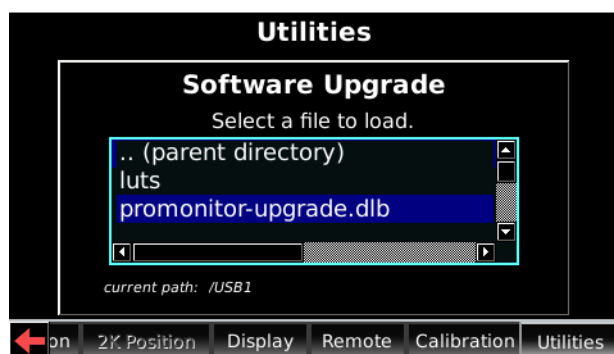

Figure 2-50 Select a File to Load Screen
4. Press **ENTER** to display the files on the USB device, then use the arrow keys to select the upgrade file, as shown in Figure 2-50.